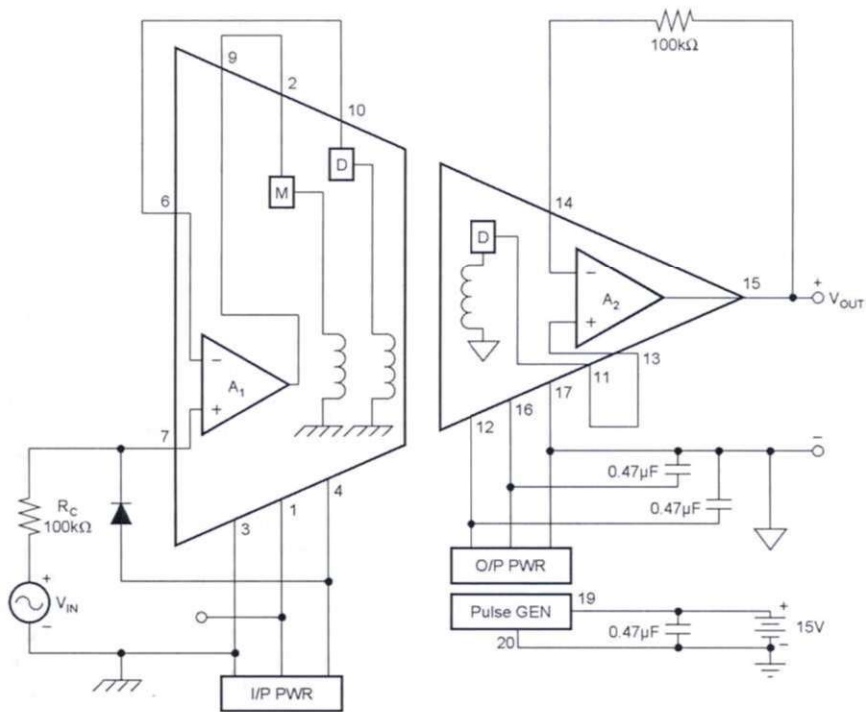

FIGURE 2. Power: Three-Port Isolation; Signal: Unity-Gain Noninverting.
- The input voltage at pin 7 (noninverting input to A_1) must not exceed the voltage at pin 4 (negative supply voltage for A_1) in order to prevent a possible lockup condition. A low leakage diode connected between pins 7 and 4, as shown in Figure 2, can be used to limit this input voltage swing.
The power supply connections in Figure 2 show the full three-port isolation configuration. The system has three separate grounds with no galvanic connections between them. The two external 0.47 μF capacitors at pins 12 and 16 filter the rectified isolated voltage at the output stage. Filtering on the input stage is provided by internal capacitors. In this configuration continuous isolation voltage ratings are: 3500V between pins 3 and 17; 3500V between pins 3 and 19; 1000V between pins 17 and 19.
The signal path portion of Figure 2 shows the 3656 in its simplest gain configuration: unity gain noninverting. The two 100k Ω resistors provide balanced resistances to the inverting and noninverting inputs of the amplifiers. The diode prevents latch up in case the input voltage goes more negative than the voltage at pin 4.
NOTE: Figures 2, 3 and 4 are used to illustrate both signal and power connection configurations. In the circuits shown, the power and signal configurations are independent so that any power configuration could be used with any signal configuration.